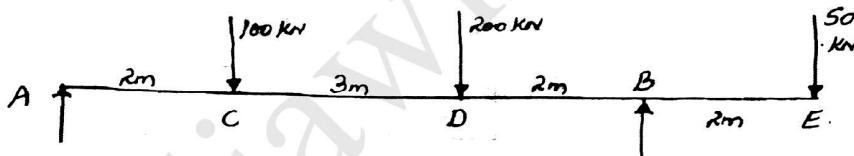

Fig.Q.10(b)
b. Determine the slopes at A and B, deflections at C, D and E in the beam shown in Fig.Q.10(b) in terms of EI . (12 Marks)